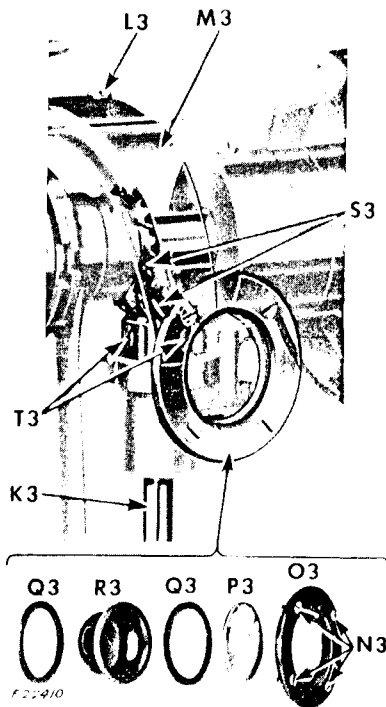

Fig. 52. Removing Upright Arm Shaft
If it is found necessary to remove the upright arm shaft **K3**, Fig. 52, it should be removed in the following manner:—
4. Remove screw **L3** and oil lead **M3**, Fig. 52.
5. Remove four cap screws **N3**, Fig. 52.
6. Remove oil flow window cap **O3**, window **P3**, oil flow body **R3** with two gaskets **Q3**, Fig. 52.
7. Mark the two bevel gears **S3**, Fig. 52, with chalk or crayon, on one tooth of one gear and the corresponding space between the teeth of the other gear so that these gears may be re-assembled, if necessary, in their original relative positions without difficulty.
8. Loosen set screws **T3**, Fig. 52 in bevel gear at upper end of upright arm shaft.
9. Make certain bevel gear at lower end of upright arm shaft is fastened securely. Then while holding upper bevel gears **S3** in mesh, draw upright arm shaft down and out of machine and insert new upright arm shaft up through bevel gear, as shown in Fig. 52.
13. Replace oil flow window assembly, oil lead and arm top cover as shown in Fig. 52.